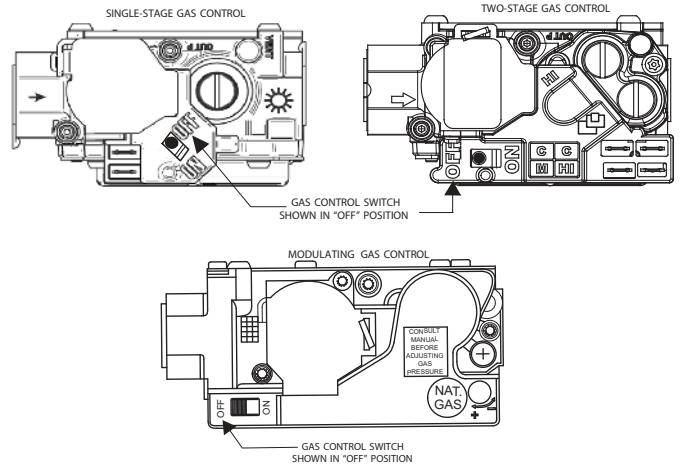

Fig. 11 – Control Switch to OFF
5. Turn the control switch on the gas control to the OFF position and wait five minutes (see Fig. 11). Then smell for gas, including near the floor. If you smell gas, STOP! Follow “B” on furnace label. If you don’t smell gas, go to next step.
5. Turn control switch on the gas control to “OFF” position (see Fig. 11).